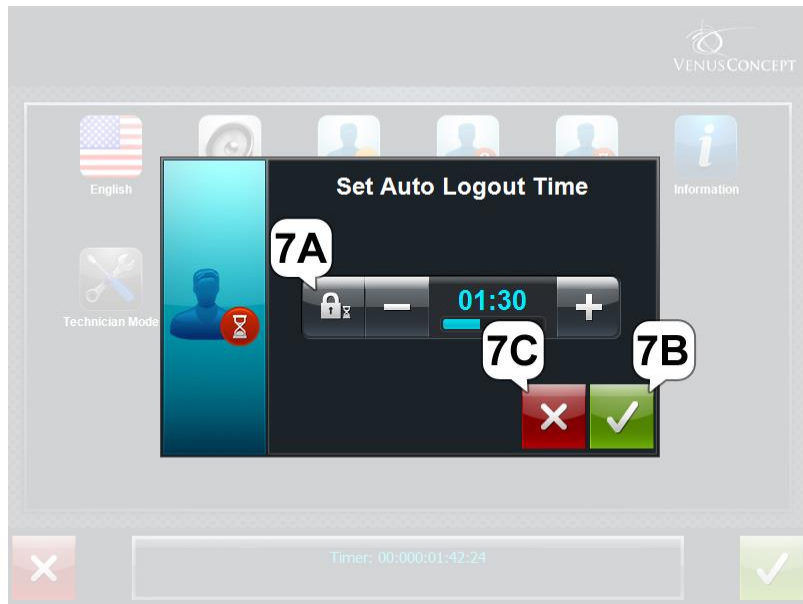

Figure 5-10: Set Auto Logout Time screen
6. **Set Auto Logout Time Button:** This button allows the operator to define the time period, after which the system will automatically logout if not in use. Pressing the *Set Auto Logout Time* button will display a new window (see Figure 5-10) which controls the Auto Logout Time. Adjusting the time is done by pressing on the "+" and "-" buttons adjacent to the padlock icon (marked 7A). Auto Logout Time is defined between 15 minutes 4 hours and adjustment is made in one minute increments. Changes made to the volume level are saved by pressing the *Confirm* button (marked 7B), or aborted by pressing the *Exit* button (marked 7C).